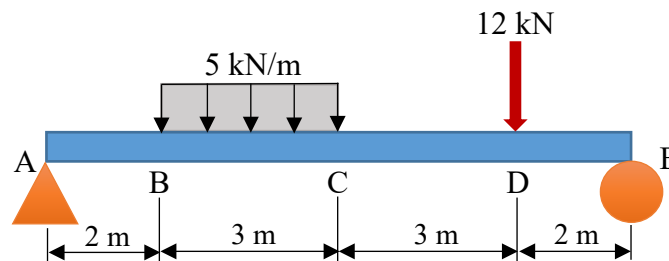

Figure 2(b) / Rajah 2(b)
- CLO1 (b) A simple supported beam is carrying a load as shown in Figure 2(b) below,
(c) Referring to the shear force diagram in Figure 2 (b), calculate: